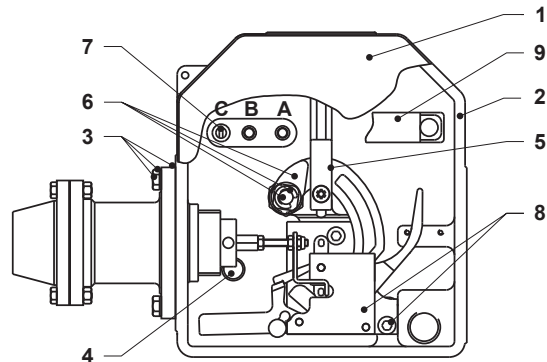

Figure 10. Mechanism Box for One BMS
The position of the travel stop (Figure 10, key 7) depends on the type of assembly and its size. Position A, B or C depending on max. travel of slam shut valve: A = 15 mm travel, B = 35 mm travel, C = 50 mm travel.
• Mechanism box (BM) intervention